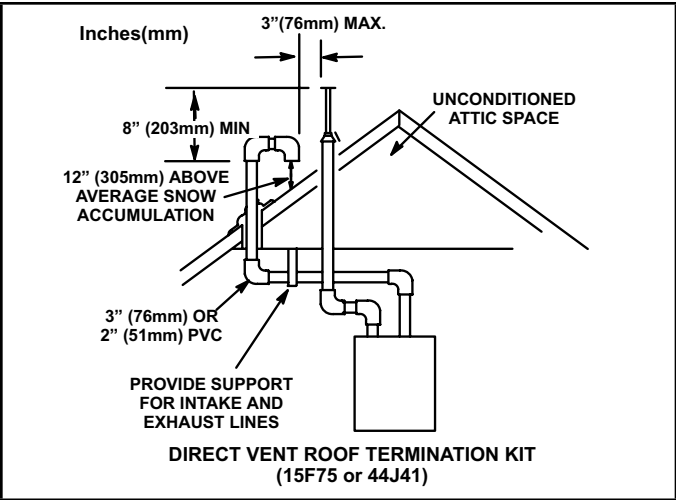

FIGURE 37
Intake and exhaust pipes may be routed either horizontally through an outside wall or vertically through the roof. In attic or closet installations, vertical termination through the roof is preferred. FIGURE 37 through FIGURE 44 shows typical terminations.
- 3 - On roof terminations, the intake piping should terminate straight down using two 90° elbows (See FIGURE 37).